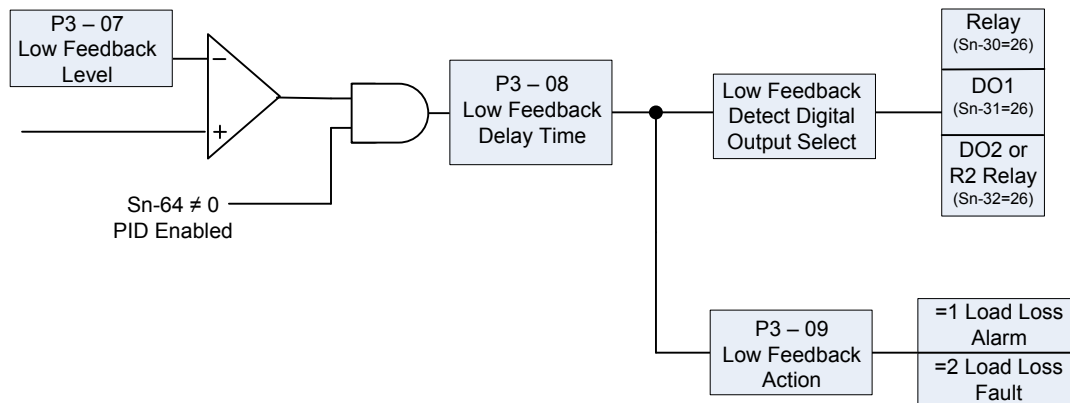

Fig.1.6.1 Low Feedback Detection Function
- Fig. 1.6.1 below is a diagram of the Low Feedback Detection Function.